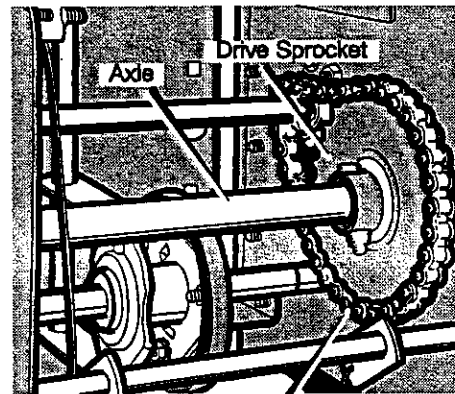

Figure 41
7. Remove the fasteners that secure the drive sprocket to the axle (see Figure 41).
16. Install the left wheel, axle, and drive sprocket with the fasteners removed earlier. Install the chain onto the drive sprocket (see Figure 41).